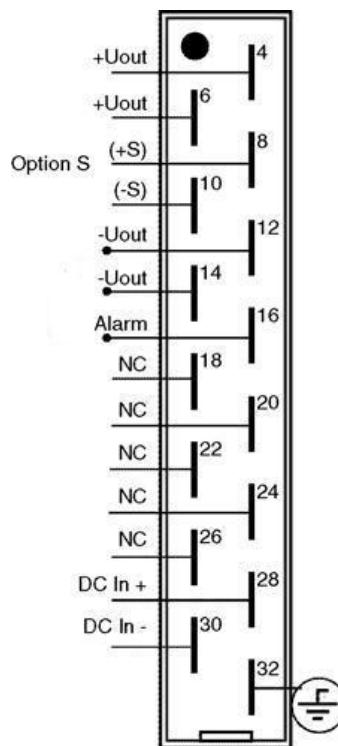

Figure 1. Pin out DIN41612 H15 connector.
1. Check the pinout with *Figure 1*. Connect the protective earth pin 32. This provide safety against electrical shock and is required to achieve EMC performance according to the declaration of conformity.
1. Check the pinout with *Figure 1*. Connect protective earth to pin 32. This provide safety against electrical shock and is required to achieve EMC performance according to the declaration of conformity.